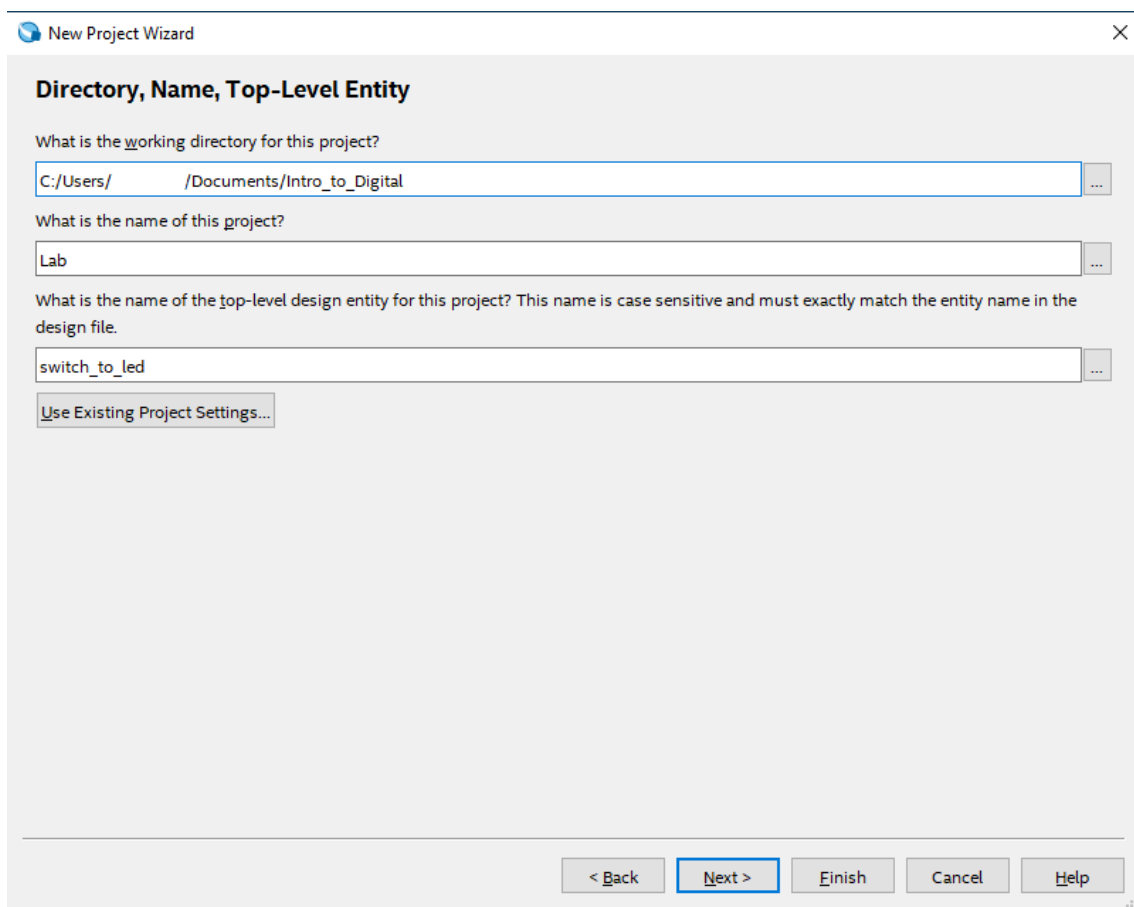

Figure 4: Pane 2 of the New Project Wizard
*The name of the top-level design entity is **case-sensitive** so ensure that you type the name in all lower-case. See Figure 4 below for a completed Pane 2.*